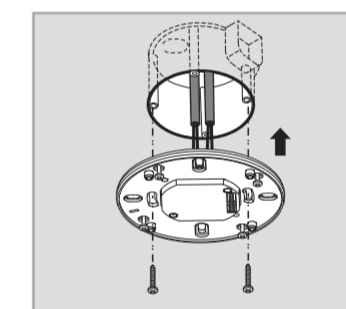

FIG.10
3.4.1.3 Fix the power box into European standard junction box with 2pcs screws (See FIG.10).